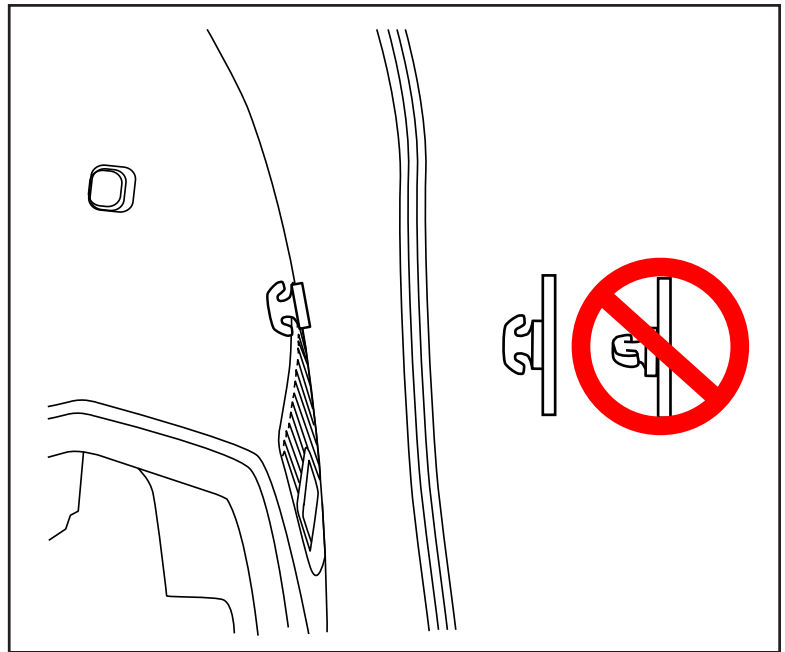

Fig. 20
18. Using the provided washer and rubber well nut, tighten the T-anchor until snug. The T-anchor should rest in a vertical position (Fig.20).
20. Check that T-Anchor is in Vertical position. Perform the same steps, for the remaining hole locations (Fig. 20). Note: The 2 front anchor locations require the well nut and washer to be installed blind from behind interior panel. Do not drop washers or well nuts behind panel.